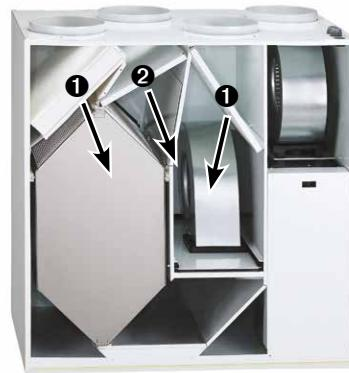

Fig. 38
2. Pull intake air filter ① and extract air filter ② to the front and replace (see Fig. 38).